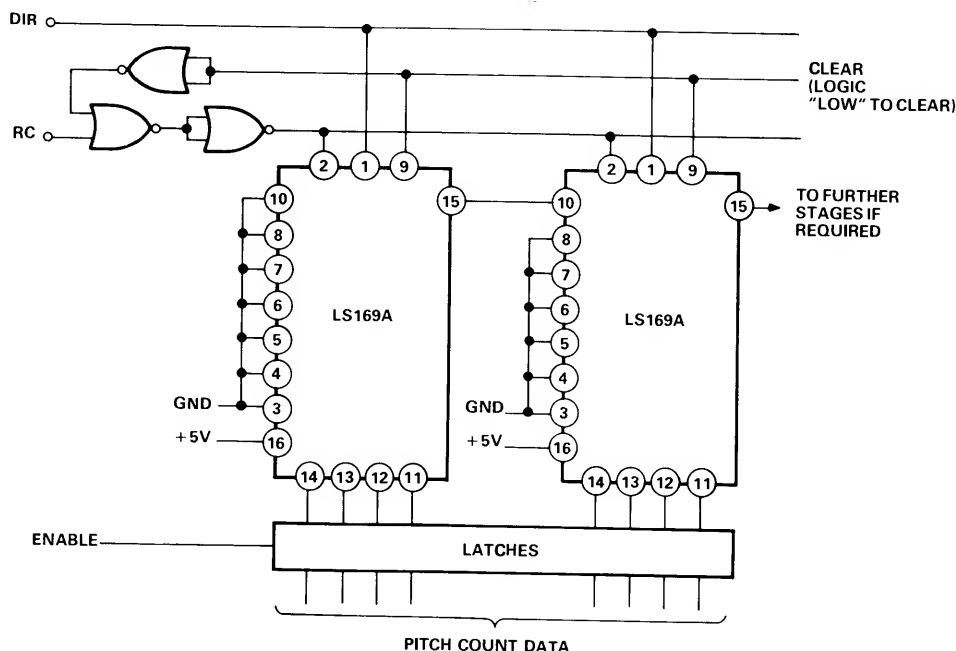

Figure 5. Circuit for Counting Pitches or Revolutions
Applications requiring pitch or revolution counts of the resolver can be easily done using external counters and gates. The input revolutions can be counted by using the RIPPLE CLOCK (RC) and DIRECTION (DIR) logic outputs provided on the AD2S80A/AD2S81A. Figure 5 shows the application circuit that can be used to perform this counting function.
To transfer the data into output latches on the converter, it is recommended in the data sheet that the INHIBIT input should be used. The data is valid $1\mu\text{s}$ after the application of a logic "low" to the INHIBIT. Hence the output latches used in Figure 5 should be enabled $1\mu\text{s}$ after the application of a logic "low" to the INHIBIT input. This will ensure that if an active BUSY pulse is present when the INHIBIT is applied it is given time to clear.